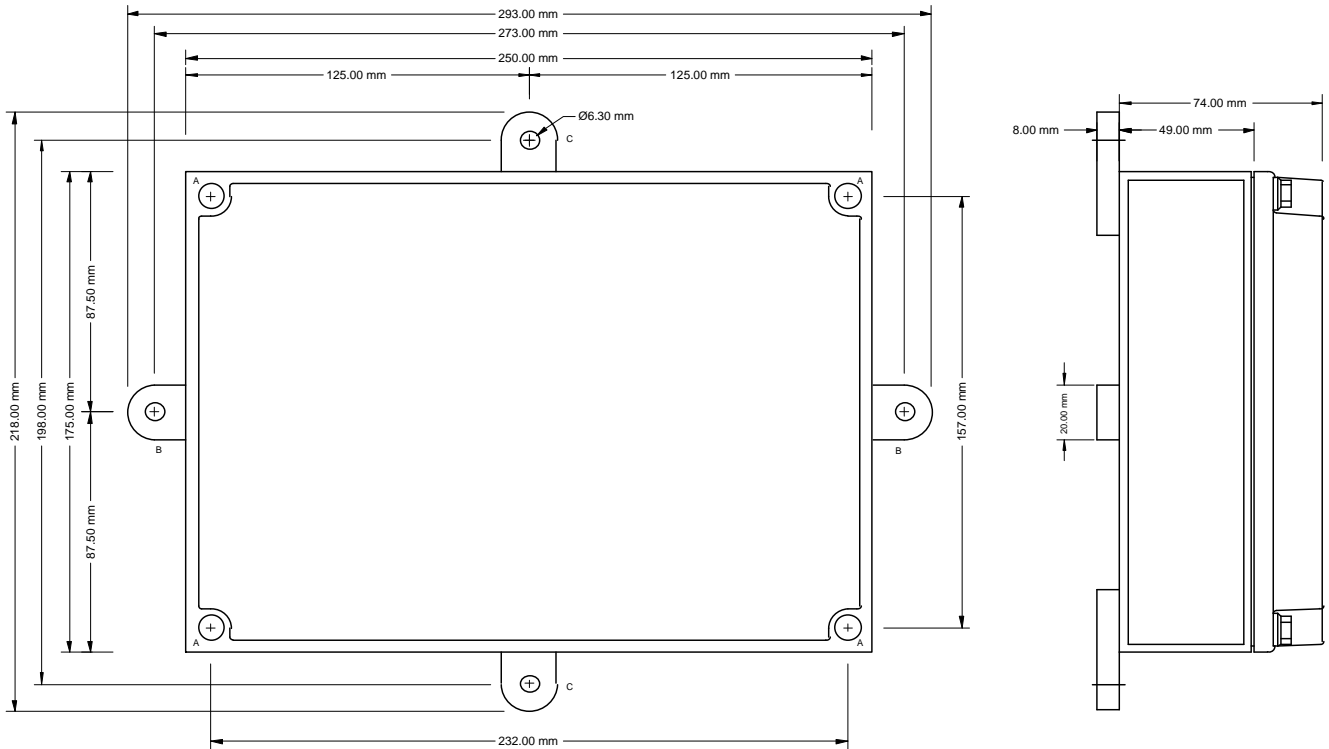

Figure 3
7.1.1. The MSR2-30 Charge Controller should be installed using either the two mounting feet or using the four fixing points which are hidden by the cover fixing screws (see Figure 3). Ensure that the fixing method employed is sturdy enough to support the weight of the Unit. Position the unit so that it is shaded from direct sunlight, sheltered from extreme weather conditions and oriented so that the cable glands are pointing downwards.